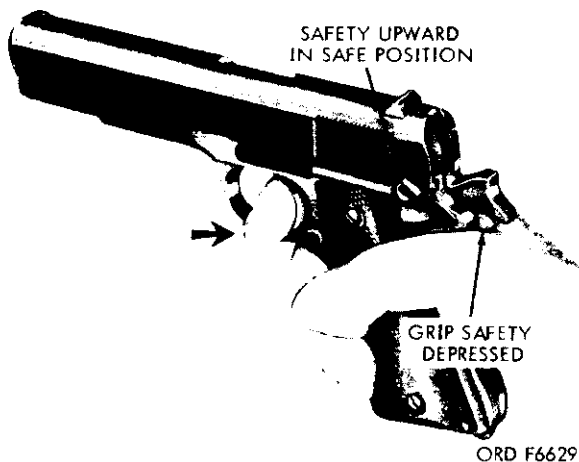

Figure 11. Safety test.
**c. Safety Tests.** Perform the following safety tests as indicated in (1) through (4) below.
- (1) **Safety test (fig. 11).** With the pistol unloaded, cock the hammer and press the safety upward into the safe (locked) position. Grasp the grip so the grip safety is depressed and squeeze the trigger tightly three or four times. If the hammer falls, the safety must be replaced.